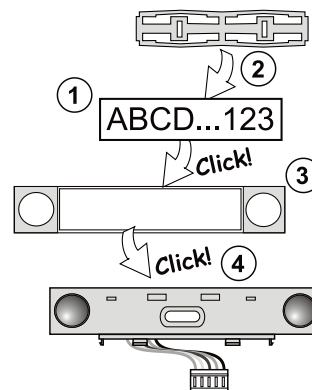

Figure 3: Insertion of a label into a control segment
- When the device is switched on, the yellow backlit activation button (3) starts flashing repeatedly to indicate that the module has not been enrolled into the system.
- Press the backlit activation button (3) – the access module is thus enrolled, and the yellow LED indicator goes off.
- When you have completed the installation, insert descriptive labels onto the segment transparent covers and close them, see figure 3. Label printing is a part of the F-Link software (**Devices** window, at the module position – **Internal settings**).